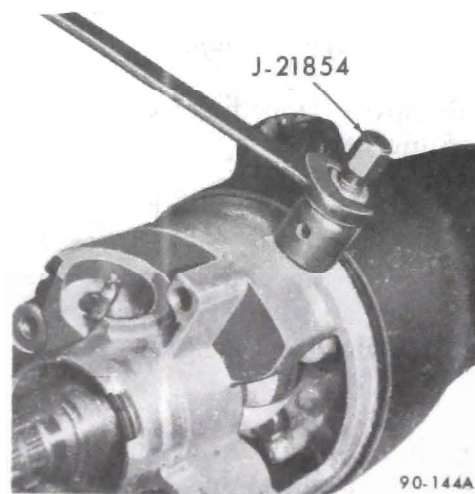

Figure 90-140 - Removing
19. Remove two pivot pins with Tool No. J-21854-I. See Figure 90-140.